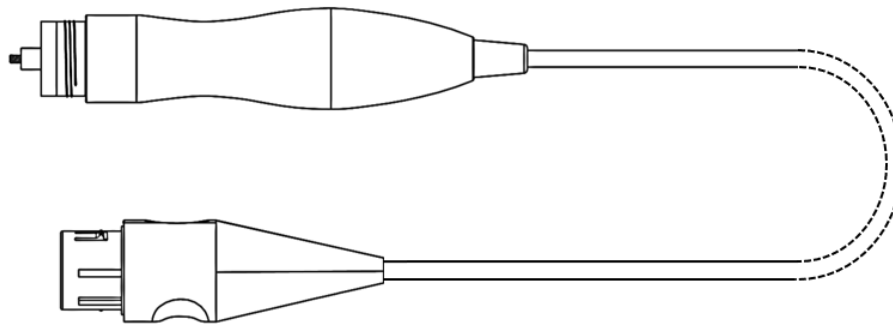

Figure 1 Diagram of Handpiece
See Figure 1 for the diagram of the handpiece.
① Diagram (Figure 1)